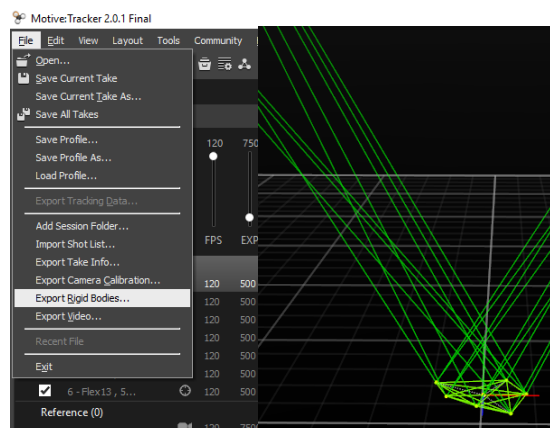

Figure 10. Exporting rigid body to a trackable file
10. Drag and select the rigid body just defined and click on **File > Export Rigid Bodies ...** (As shown on figure 10). Save the *.tra or *.motive file with a convenient name in the same folder as the camera calibration (*.cal).